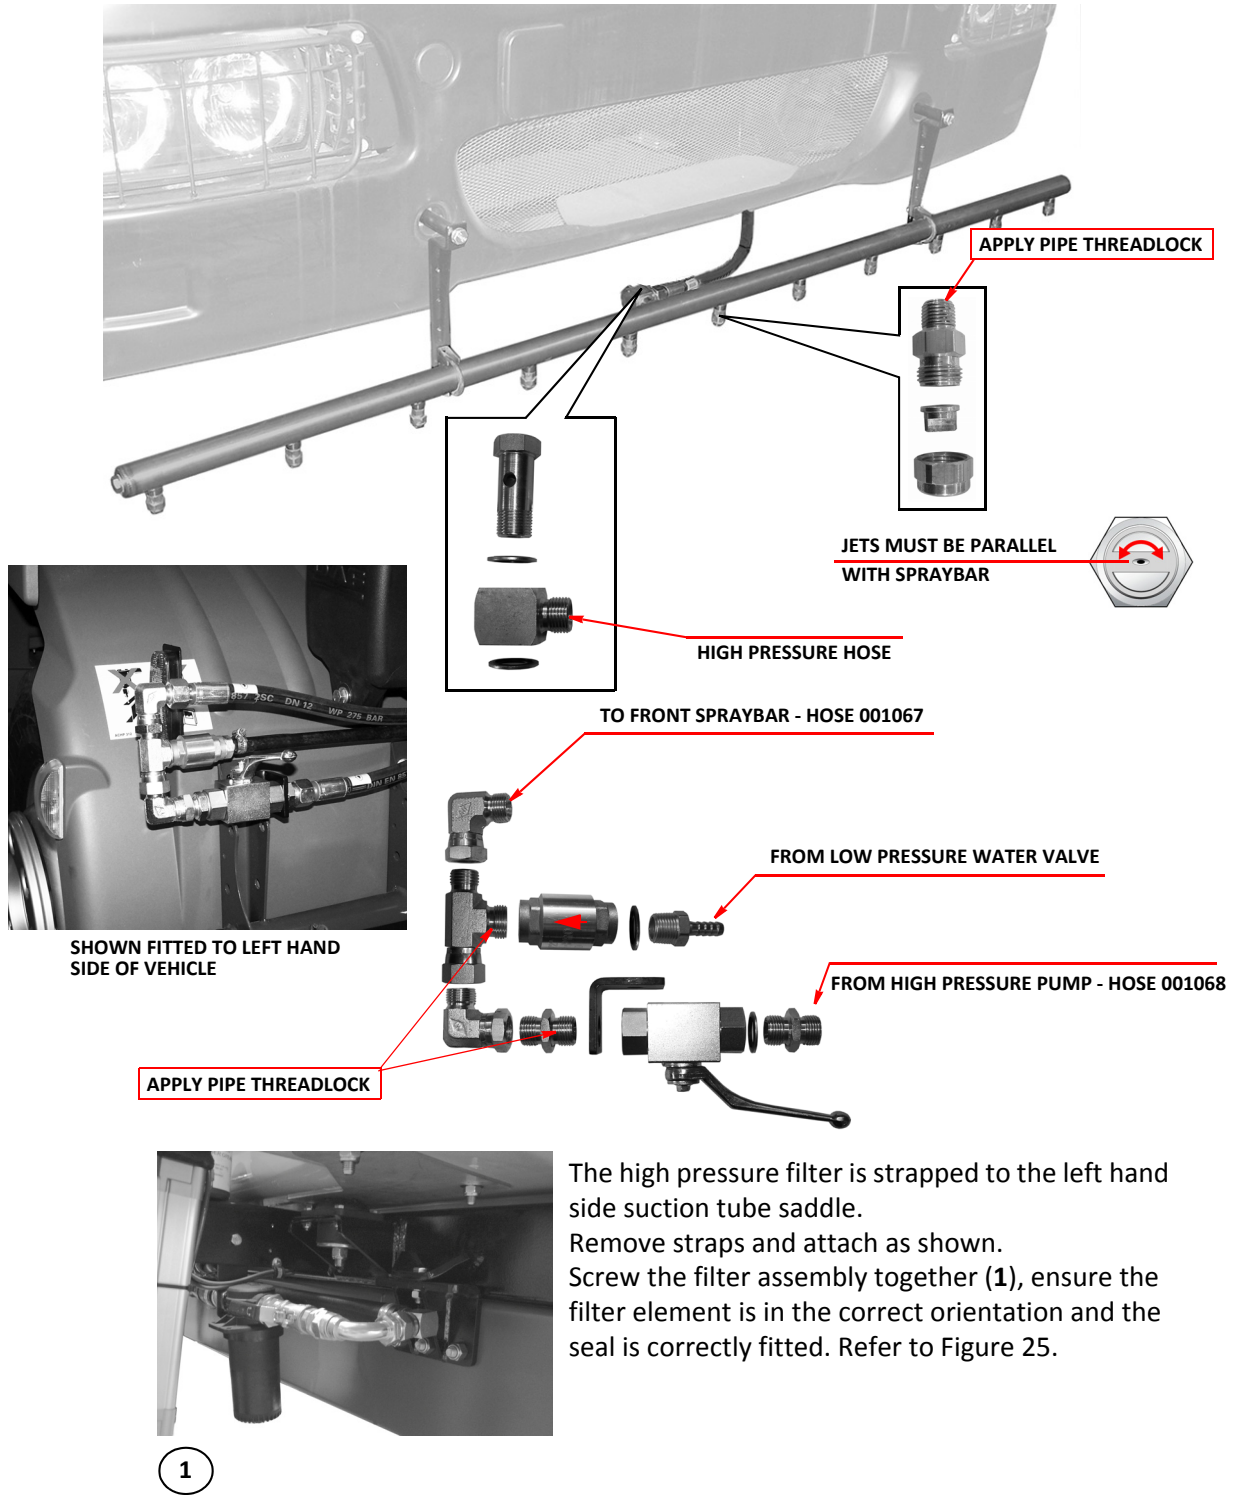

Figure 26 - High pressure spray bar attachment and hose connection
1. Assemble the spray bar as shown in Figure 26.